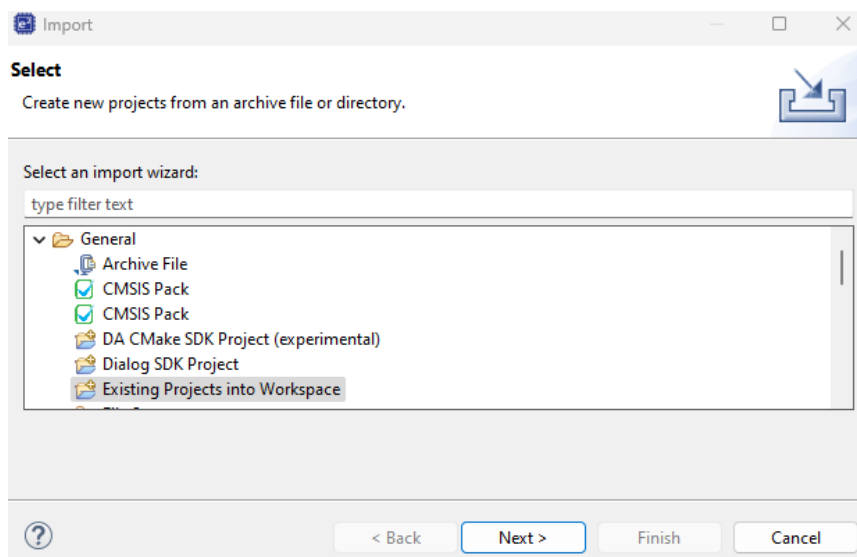

Figure 3. Import Existing Project
4. Since the SDK package already contains an existing project, select *General > Existing Project into Workspace* (see Figure 3). Click **Next**.